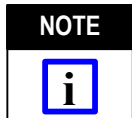

Figure 1
Distribution Patch Panel Enclosures 559542-[] (24-port), 559614-[] (48-port), shown in Figure 1, and 559552-[] (72-port) are used for housing singlemode and multimode fiber optic connections. The enclosure fits into standard 483-mm [19.0-in.] or 584-mm [23.0-in.] Electronic Industries Alliance (EIA) racks only. Read these instructions thoroughly before starting installation.
2. DESCRIPTION (Figure 1)